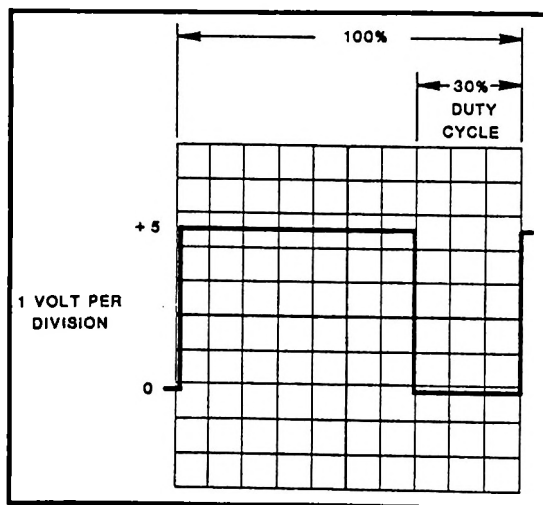

Figure 5-1
- b. Adjust R313 so that an approximate 70% duty cycle is observed on the scope display. This adjustment must be made with a tape cartridge running in the transport. See Figure 5-1. Slight variations in the duty cycle will be observed as the controller compensates for rotational nonlinearities of the motor.